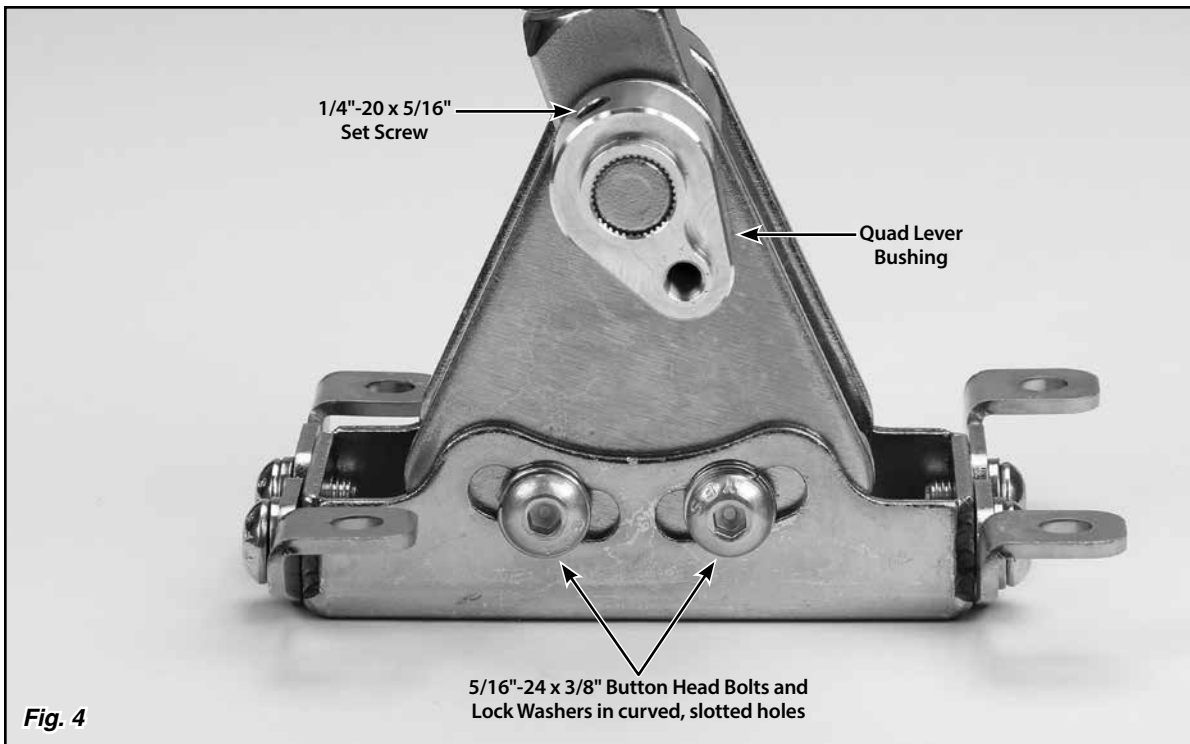

Fig. 4
Step 5: Make sure the two 5/16"-24 x 3/8" button head bolts and lock washers that are in the curved, slotted holes in the driver side of the floor mount mounting bracket are tight using a 3/16" Allen wrench. Place the Shifter in the desired location on the vehicle's floor. Make sure the shifter lever will not interfere with the dash when in Park, or with the seat when in low gear. The shifter assembly may be tilted forward or backward if needed by loosening the two 5/16"-24 x 3/8" button head bolts and lock washers that are in the curved, slotted holes in the driver side of the floor mount mounting bracket. Retighten the button head bolts and lock washers in the curved, slotted holes once you have the shifter assembly at the angle you want. **Fig. 4**